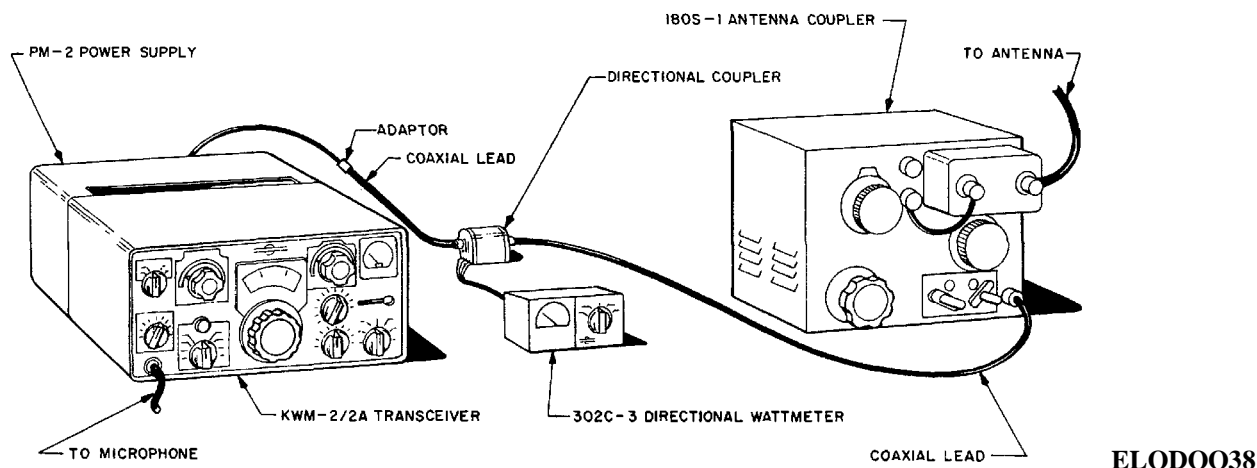

Figure 12-2. CU-2004/U and Collins KWM-2/2A, hookup diagram.
12-3. Installation (fig. 12-2)
- Connect the Collins KWM-2/2A, 302C 3 directional wattmeter and antenna coupler as shown in figure 12-2. Leave the coaxial lead disconnected from the coupler at this time.